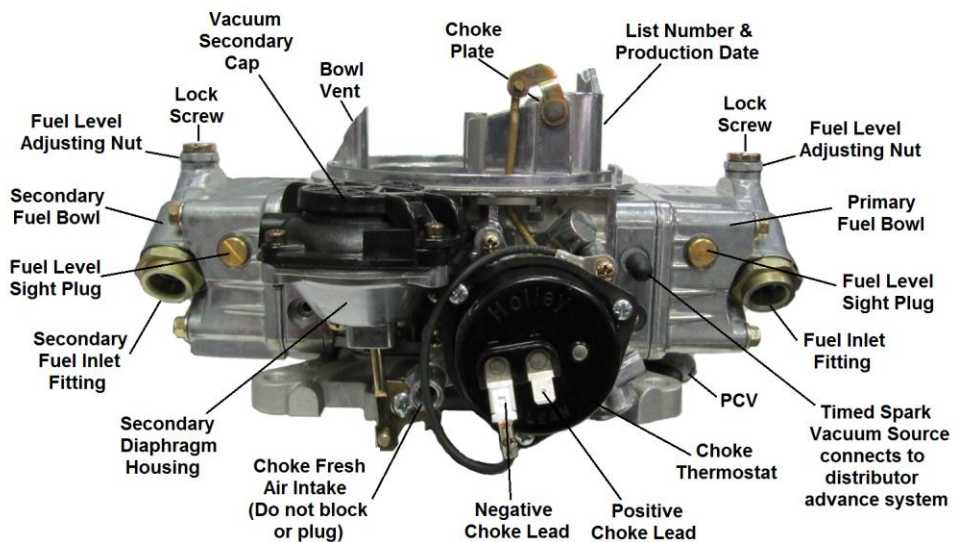

Figure 6
6. Reconnect the appropriate vacuum hoses to the carburetor, noting the correct fitting from Figures 6 and 8.
8. Connect the power brake hose to the fitting as shown in **Figures 6 or 8**.